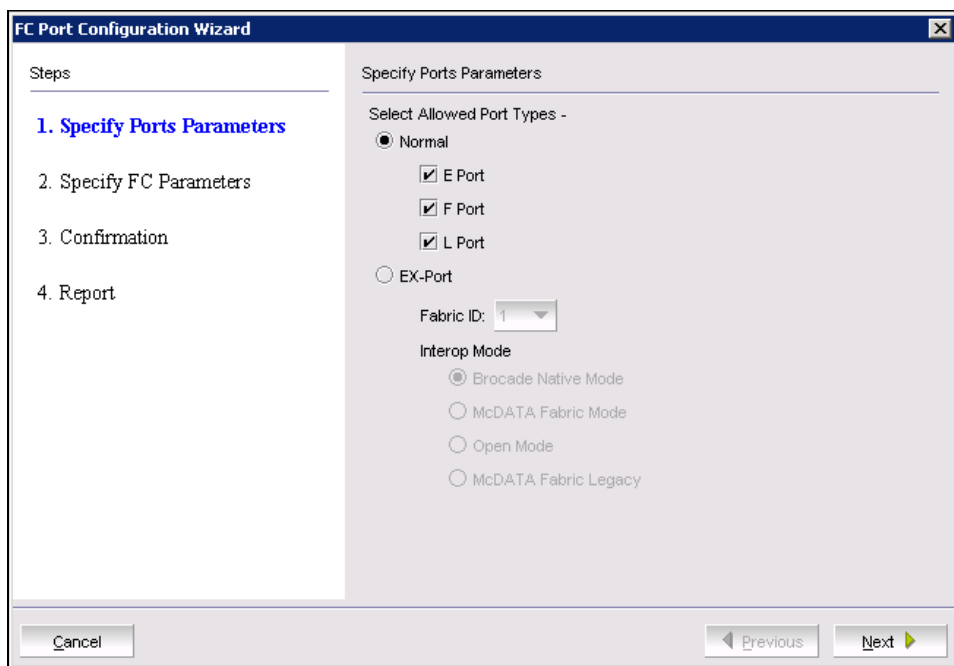

Figure 8-54 FC Port Configuration Wizard Port Parameters
2. Click **Yes** to accept the confirmation, and you see the FC Port Configuration Wizard, shown in Figure 8-54. The first step is to configure the Allowed Port Types.